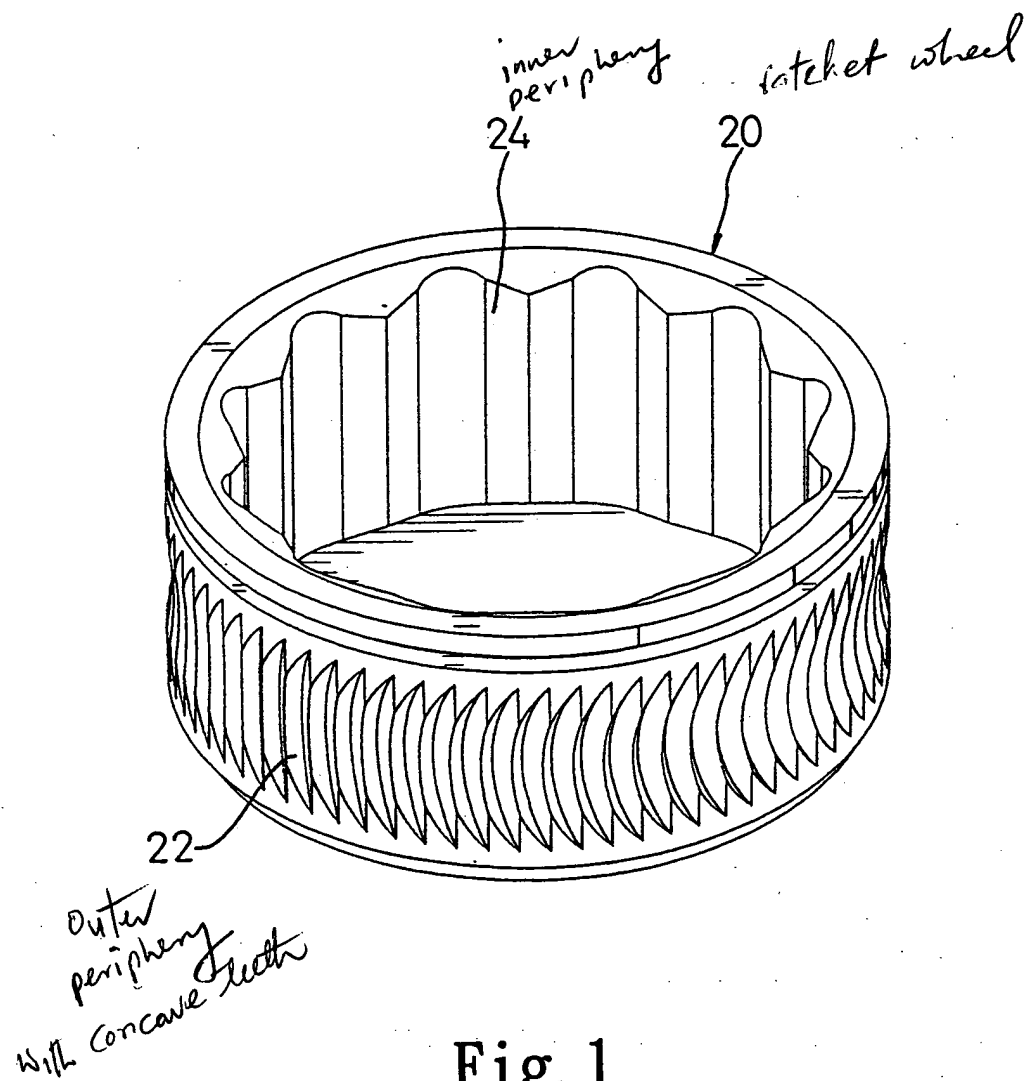

Fig. 1
FIG. 1 is a cross-sectional view of a circular device. The device has an outer shell (9) and an inner layer (5). A central cavity (10) is surrounded by a ring (11). A central vertical axis is shown with arrows pointing up and down, labeled '20'. A dimension 't=0.51' is indicated for the thickness of the inner layer. A spring (12) is shown at the bottom, connected to a base (10a) and a top part (10b).